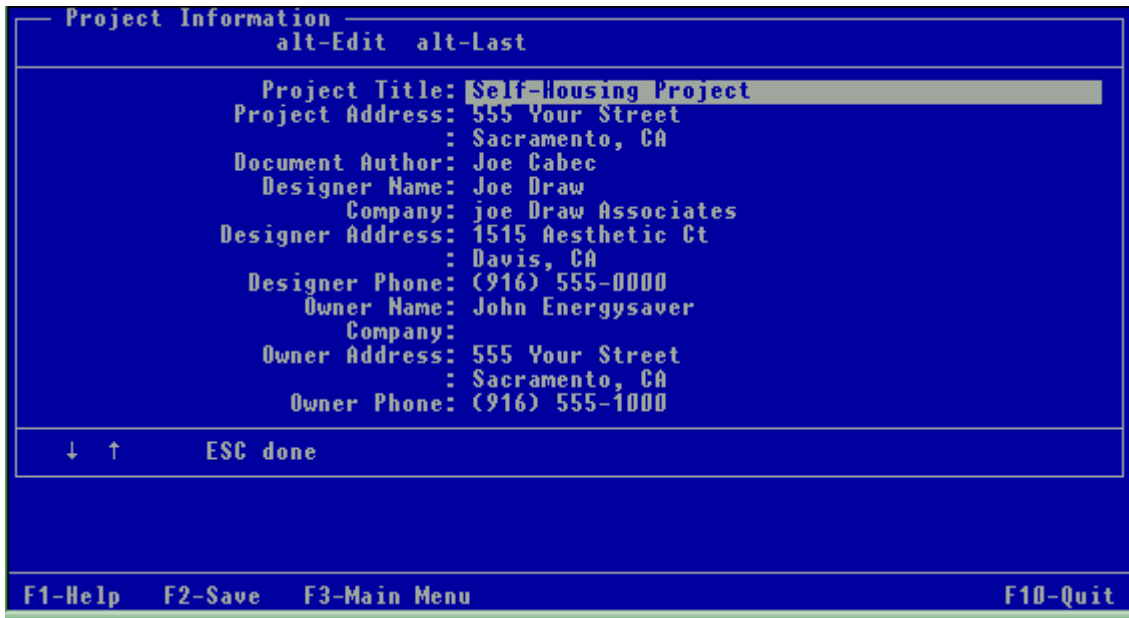

Figure 4-4. Project Info Screen
Step 4 - Project Info screen (Figure 4-4).